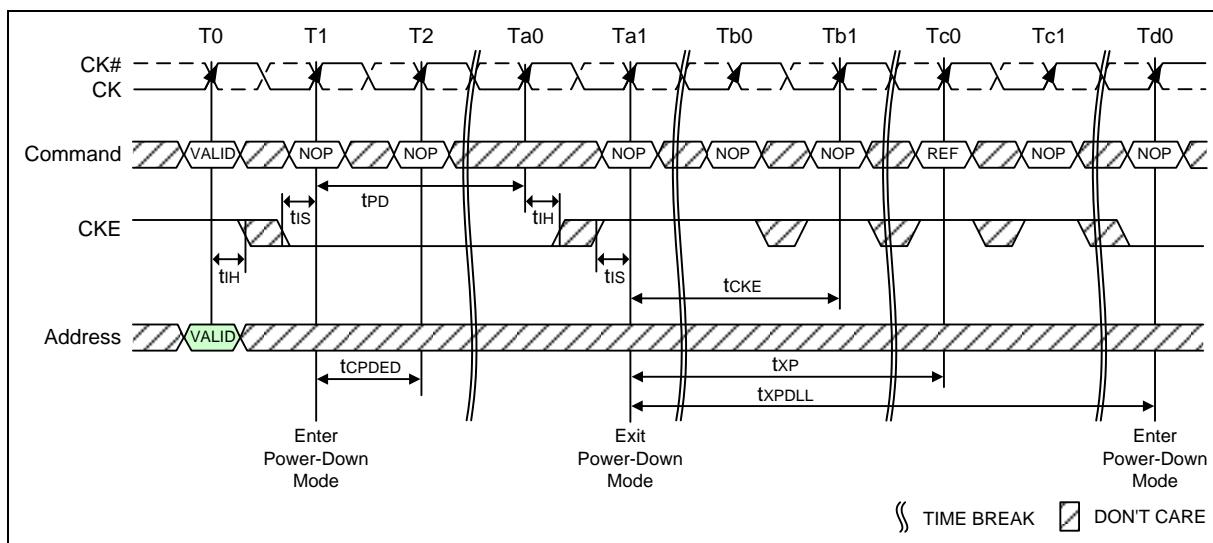

Figure 70 – Power-Down Entry/Exit Clarifications - Case 2
- 2)  $t_{XP DLL}$  must be satisfied (referenced to the registration of PD Exit) before the next power-down can be entered. A detailed example of Case 2 is shown in Figure 70.